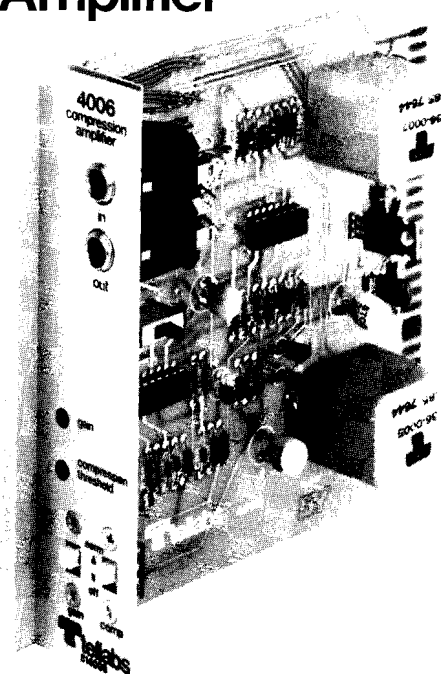

figure 1. 4006 Compression Amplifier
1.01 The 4006 Compression Amplifier, figure 1, combines continuously adjustable linear gain with linear level limiting adjustable over a wide range of output levels. The result is a low-distortion compression amplifier designed for use in voice frequency circuits where undistorted limiting of speech or data signals is desired.